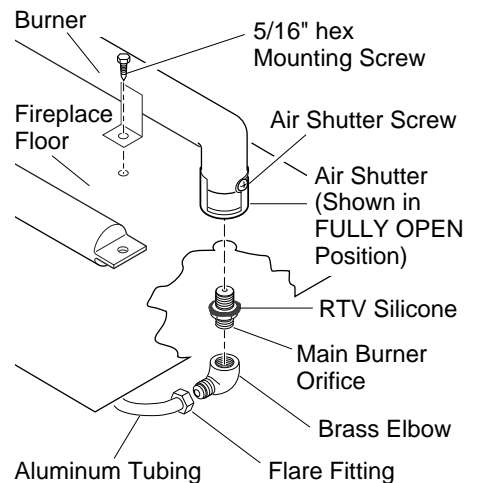

Figure 4 - Removing/Replacing Main Burner Orifice, Brass Elbow, and Aluminum Tubing
2. Disconnect flare fitting connected to the brass elbow inside the bottom control compartment area. Use a 3/4" open end wrench on the flare fitting (see Figure 4).
- Adjust air shutter setting on main burner. Loosen air shutter screw and rotate air shutter to FULLY OPEN position (see Figure 4, page 1). Tighten shutter screw. Place burner back into position. Attach with the two 5/16" hex mounting screws removed in step 5.
- Attach main burner orifice and brass elbow assembly to burner. Place main burner orifice into threaded end of burner and turn clockwise to tighten (see Figure 4, page 1). Align the brass elbow with the flare fitting on the aluminum tubing.
- Reconnect the aluminum tube flare fitting onto the brass elbow (see Figure 4, page 1).
- Reapply RTV silicone to seal area where orifice passes through the bottom combustion chamber (see Figure 4, page 1).